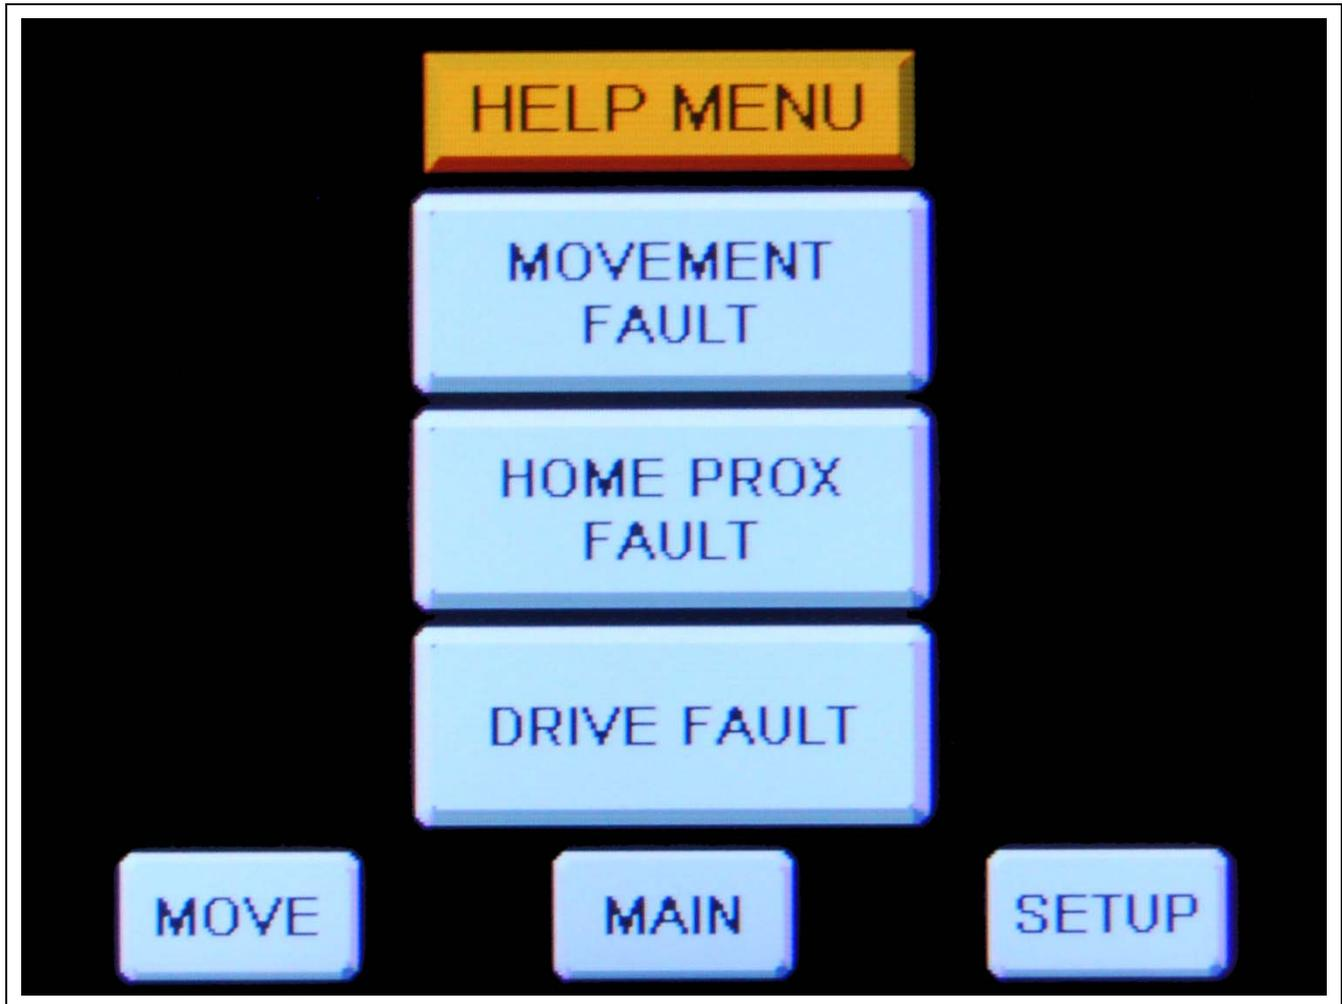

Figure 4F Help Menu Screen
The help menu has three (3) options for displaying troubleshooting information for different faults that may appear during the operation of the distributor. (See Figure 4F.)